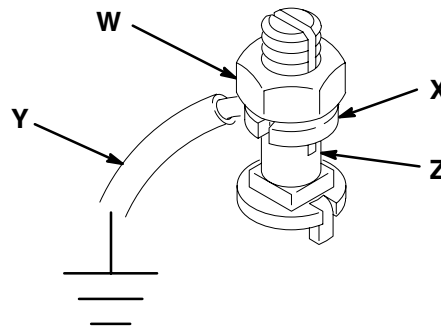

Fig. 2
All Other Pumps: use a ground wire and clamp. See Fig. 2. Loosen the grounding lug locknut (W) and washer (X). Insert one end of a 1.5 mm² (12 ga) minimum ground wire (Y) into the slot in lug (Z) and tighten the locknut securely. Connect the other end of the wire to a true earth ground. Order Part No. 237569 Ground Wire and Clamp.